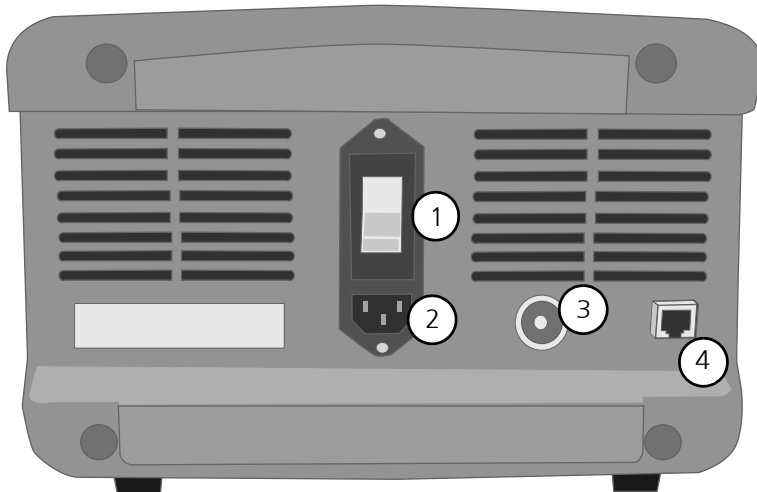

Figure 6.2. Battery charger (back)
2. Turn off the circuit breaker. See Figure 6.2, "Battery charger (back)," on page 26.